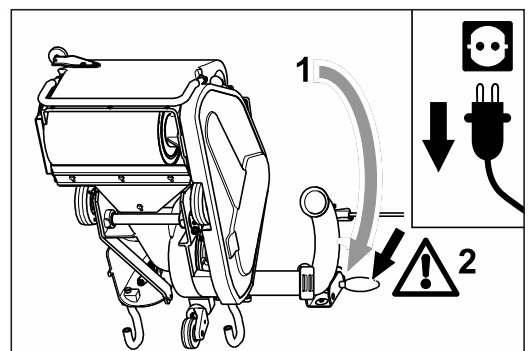

Fig. 63 Tilt the machine backwards (1). **Ensure that the machine is standing securely (2)!**
- 4 Tilt the machine back over the safety guards (fig. 63, 1). **Ensure that the machine is standing securely (fig. 63, 2)!**